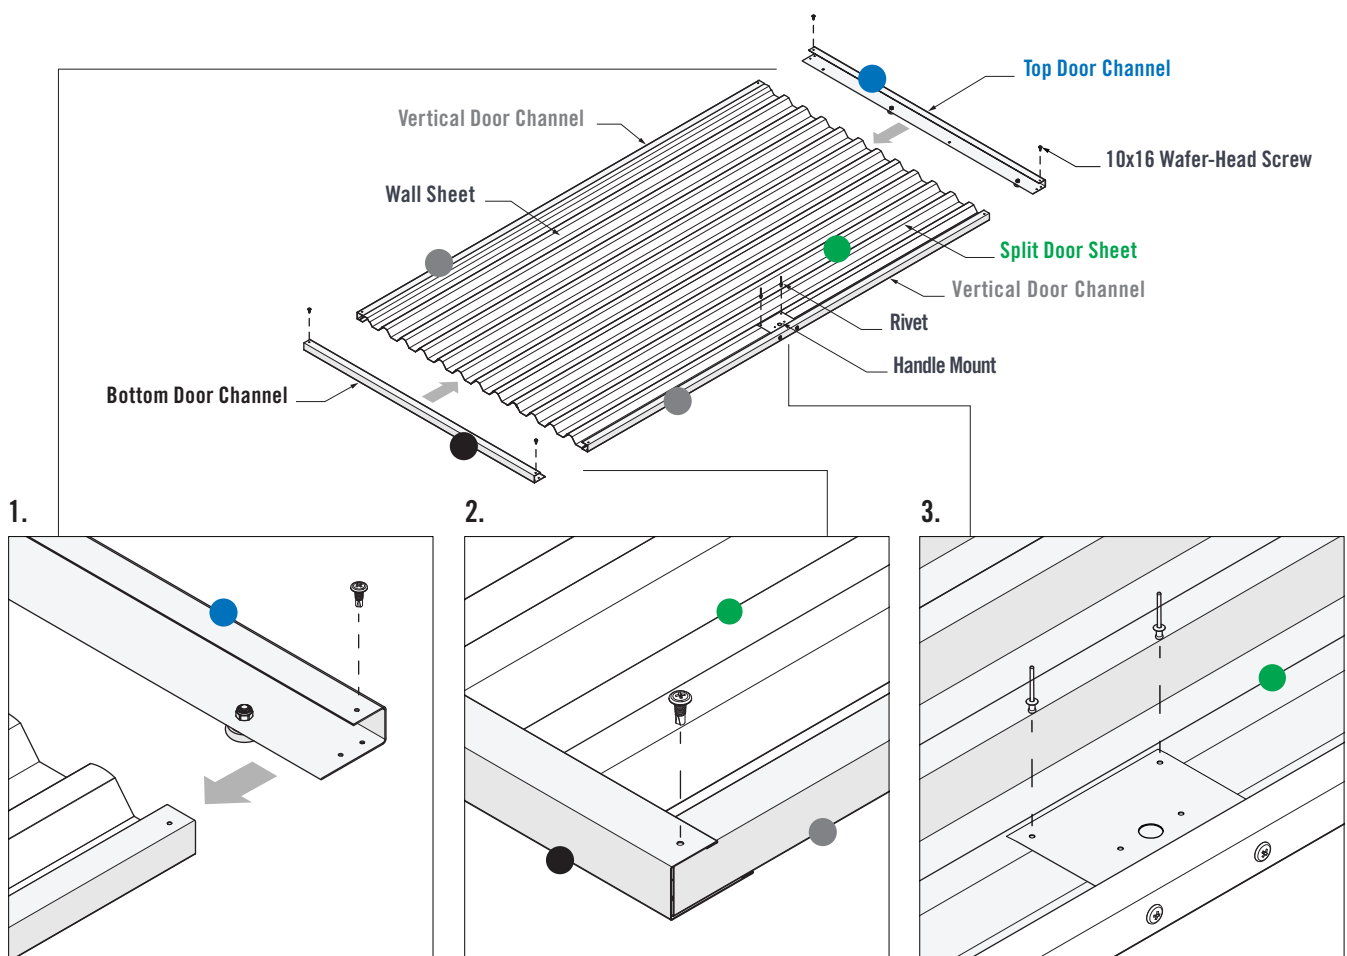

FIGURE 5.5
1. Fit the Vertical Door Channels over the side of the door sheets, then fit the **Top** and Bottom Door Channels over the door sheet ends. Ensure the lip of the Top and Bottom Door Channels fit over the Vertical Door Channels (Figure 5.5).
2. Fasten one 10x16 Wafer-Head Screw through the pilot holes in the corner of each **Top** & Bottom Channel and into the Vertical Door Channels (Figure 5.5).
3. Drill two 3.5mm holes through the Handle Mount and into the **Split Door Sheet**. Install two coloured Rivets (Figure 5.5).